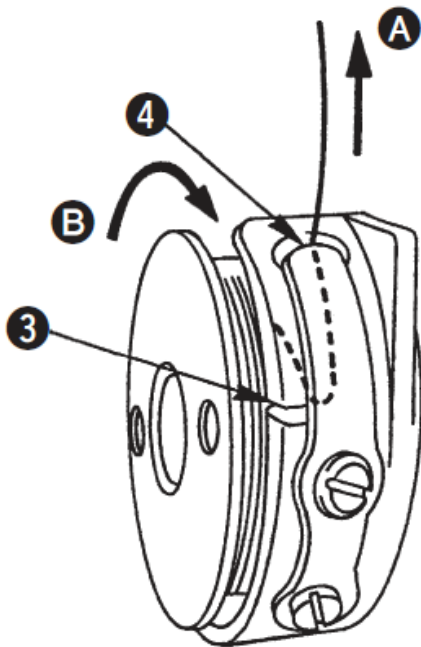

Figure 14
2. Pass the thread into the threading slit (Fig 14, Item 3) in the bobbin case, then route it under the tension spring and draw it out from notch ④.